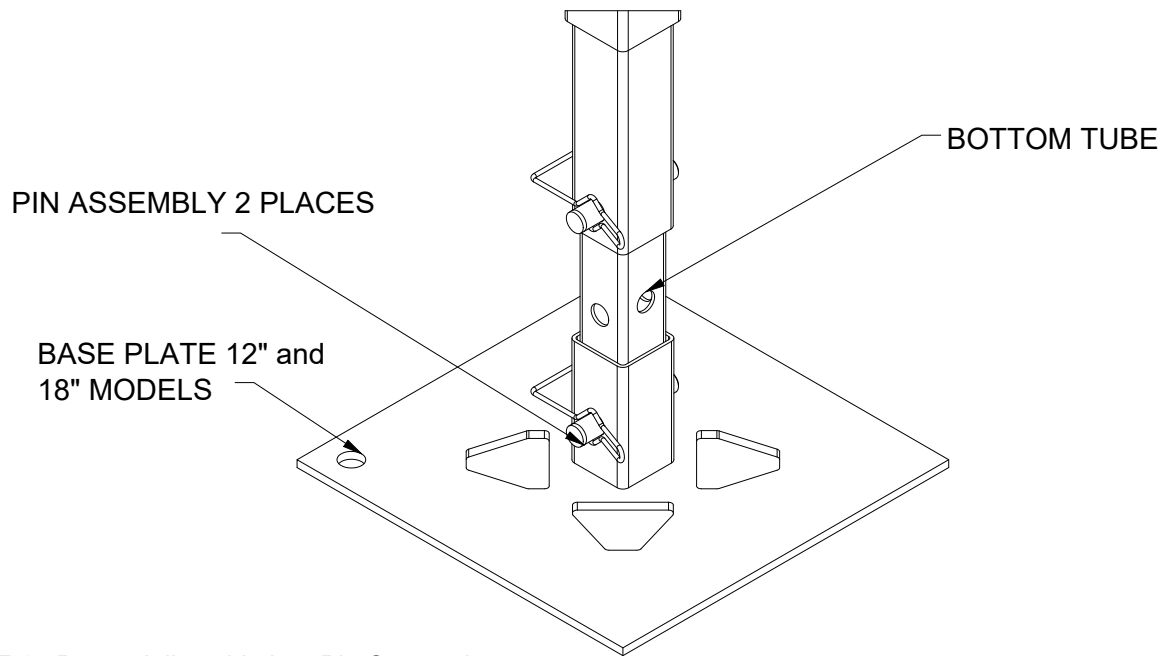

FIGURE 2: Power Adjustable Leg Pin Connections
1. Begin Chassis assembly by having the Assemblers unpack (6) Power Adjustable Legs. Insert the bottom tube of the leg into the base plate and secure with pin assembly. See Figure 2 on next page and make sure to expose the four lower holes on the bottom tube.